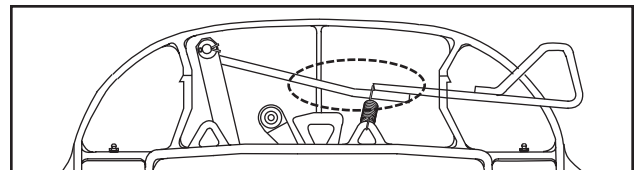
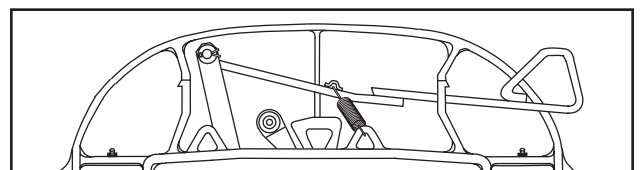

Figure 1b
Figure 1c
5. Inspect the release handle. If your fifth wheel is a **RIGHT HAND** (curb side) release, apply grease along the release handle where it contacts the handle spring (see *Figure 1a*). If you have a **LEFT HAND** (driver side) release handle with a sliding spring, as shown in *Figure 1b*, apply grease along the release handle where it contacts the handle spring. Lubrication is **NOT** required for **LEFT HAND** (driver side) release handles that **HAVE** a fixed spring (see *Figure 1c*).